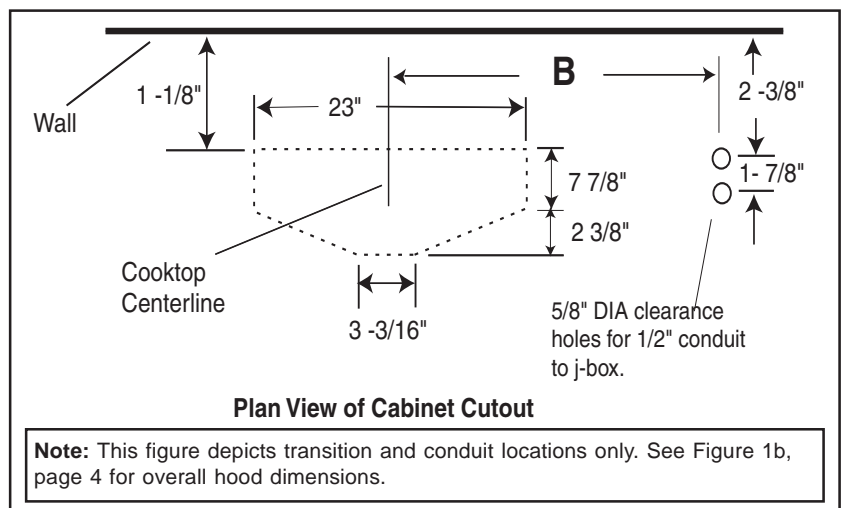

Figure 11: Transition and Conduit Locations
2. If the hood is installed for vertical discharge, use Figure 11 to create clearance holes for passage of the transition and conduit (See Dimension B in Figure 11 and in Table).